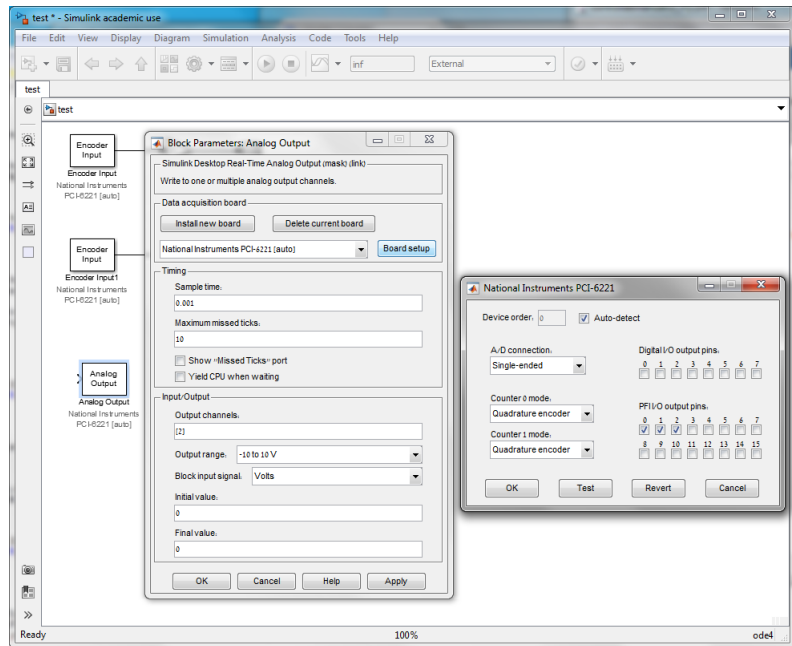

Figure 18: Setting up Analog Output block for the DC motor voltage.
2. Add the block Analog Output to the Simulink model. Double-click on the block to open the settings dialog and refer to Figure 18 for a screenshot (The settings dialog for this block is same as the one for Encoder Input block except 'Input/Output' part).
needed to a **Transfer Function** block that acts as a pre-filter to the DC motor voltage. Then the **Transfer Function** block transmits the signal to the **Saturation** block with  $\pm 1$  limits. It is a common assumption that the control signal, which can be the output from the **Transfer Function** block, is normalized to  $\pm 1$  range, and the output from the **Constant** block belongs to the interval  $[0, 1]$ . On the other hand, the output range of the **Analog Output** block is  $\pm 10$  Volts (see Figure 18). So between the **Saturation** and **Analog Output** blocks should be a **Gain** block with the gain value of 10.